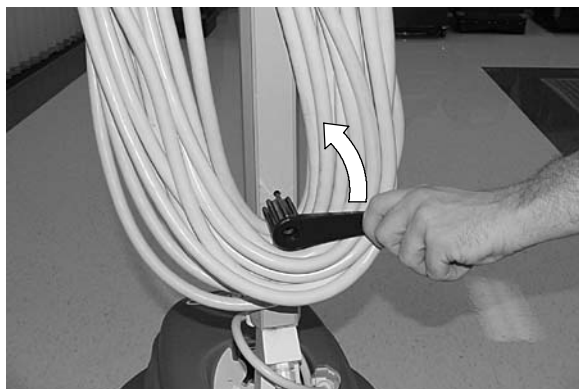

FIG. 4
1. Pull and turn the quick-release cord hook upward and remove the power cord from the machine (Figure 4).